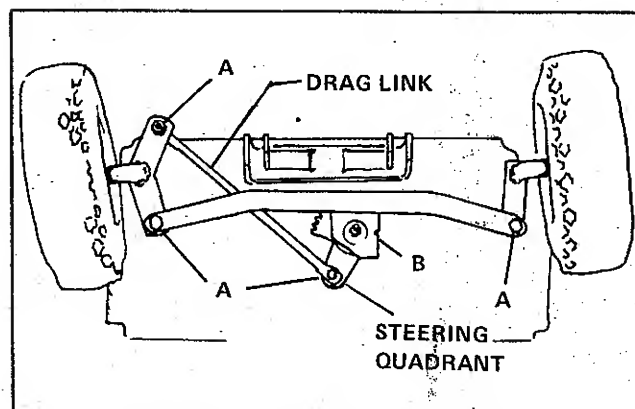

Figure 5-8. Steering Adjustment Points
4. See Figure 5-8, Item A. Remove the drag link from the unit, and remove the two brass bushings from the drag link. Install the two 154177 bushings supplied in the 103326 kit in place of the brass bushings removed. Reassemble the drag link assembly and torque all items indicated with an "A" to 30 ft. lbs.
5. See Figure 5-8, Item B. Loosen the steering quadrant from the tractor. Remove the two washers, lock screw and flange nut while doing this. Now reinstall the quadrant using the 178489 washer, 178490 washer, 715182 lock screw and 718073 flange nut supplied in the 103326 kit in place of the items previously removed. Torque this assembly to 60 ft. lbs.